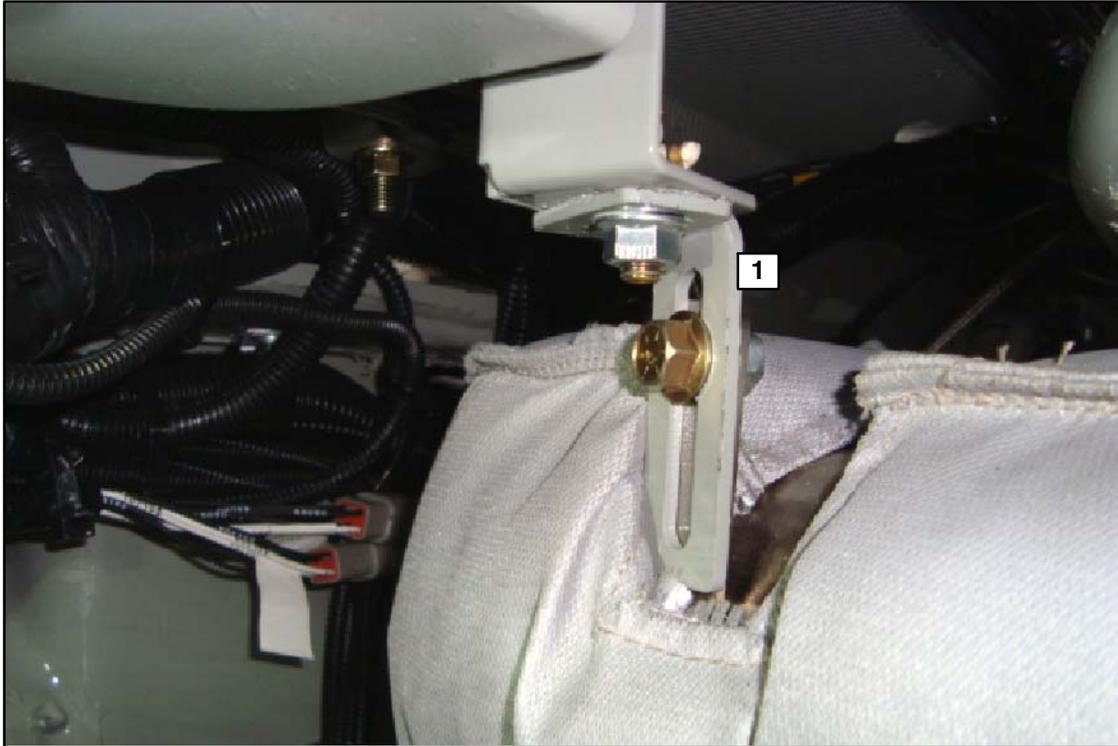

Figure 8.
- a. Torque the clamp, Item 1 in Figure 8, to 86–95 in-lbs. Torque the clamp, Item 2 in Figure 8, to 100–110 in-lbs.
- b. Tap around the clamps in three (3) places with a rubber mallet,
- d. Tap around the clamps in three (3) places with a rubber mallet,
11. Locate the pipe assembly bracket where it attaches to the coach frame (refer to Figure 8).